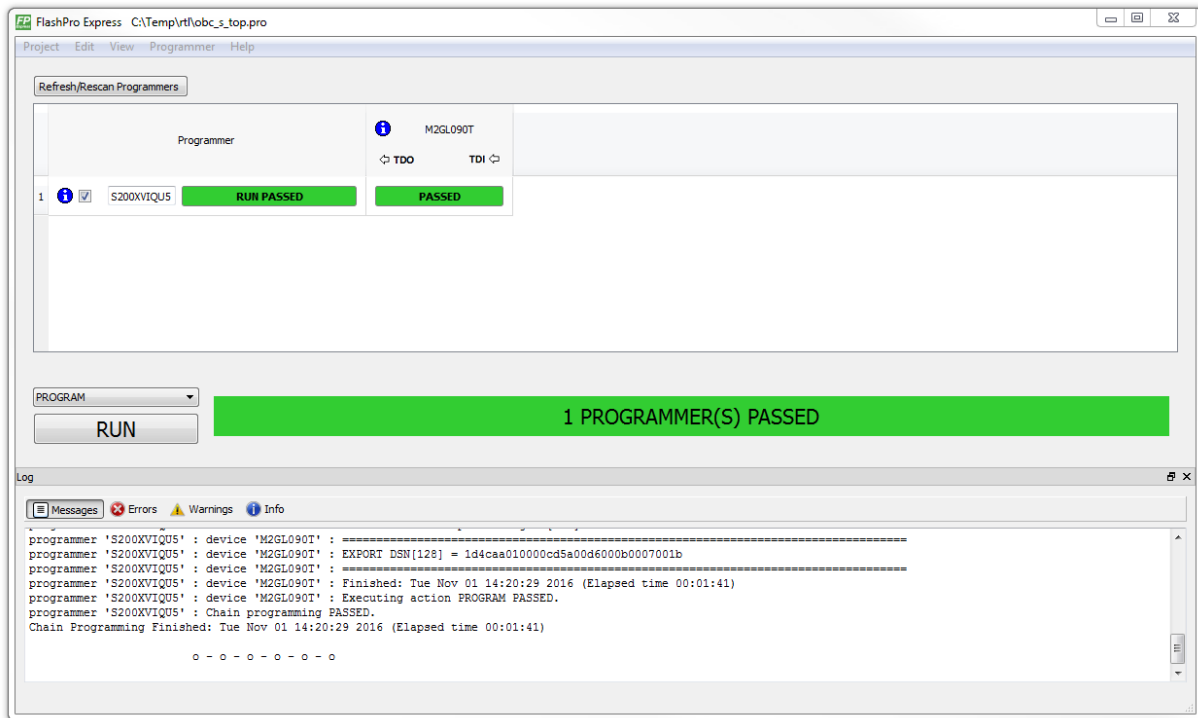

Figure 11-3 - View of FlashPro Express after program passed.
6. The FPGA should now be loaded with the new firmware, which might take a few minutes. Once it is finalized the second last message should be “Chain programming PASSED”, see Figure 11-3.